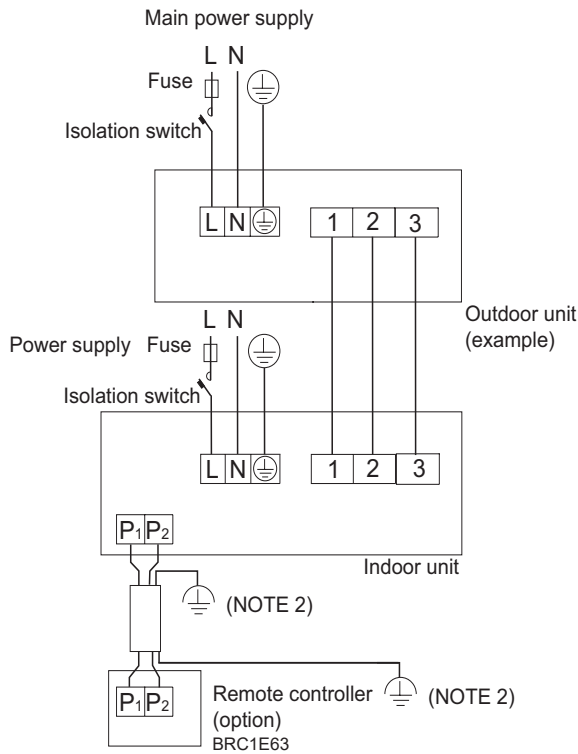

Fig. 17
- Single phase pair type: 1 remote controller controls 1 indoor unit (standard system). (Fig. 17)